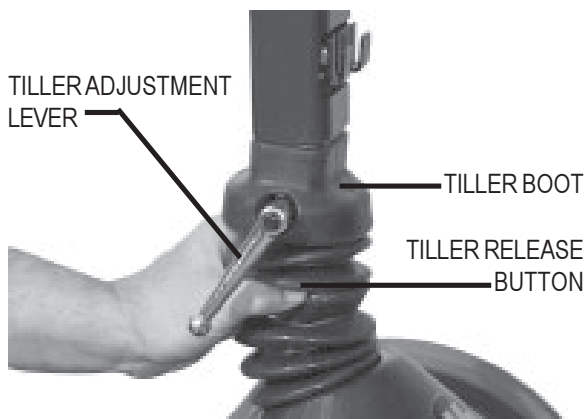

FIGURE 9A. TILLER ANGLE ADJUSTMENT
1. Turn the tiller adjustment lever counterclockwise until it is loose. If the tiller adjustment lever comes in contact with the tiller basket, pull it outward, turn it clockwise, and release it. Continue to loosen until the tiller is able to move. See figures 9A and 9B.